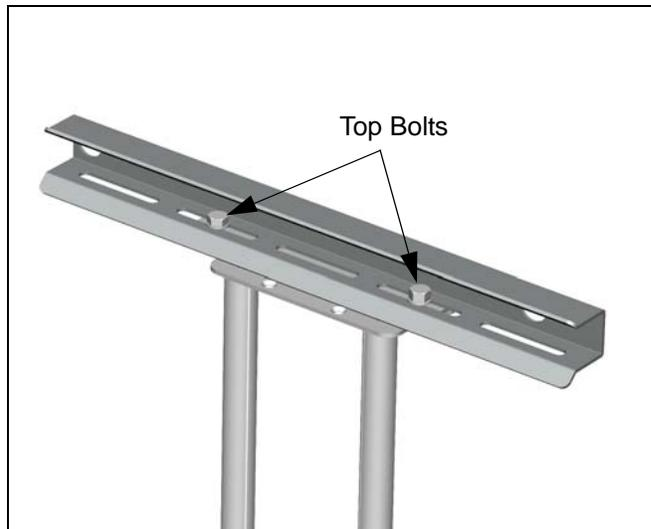

Figure 16: Swing Arm Adjustment-Slightly Off Center
2. Loosen four bolts (two on the top and two on the bottom) securing the swing arm assembly to the top and bottom mounting brackets (See Figure 16:).